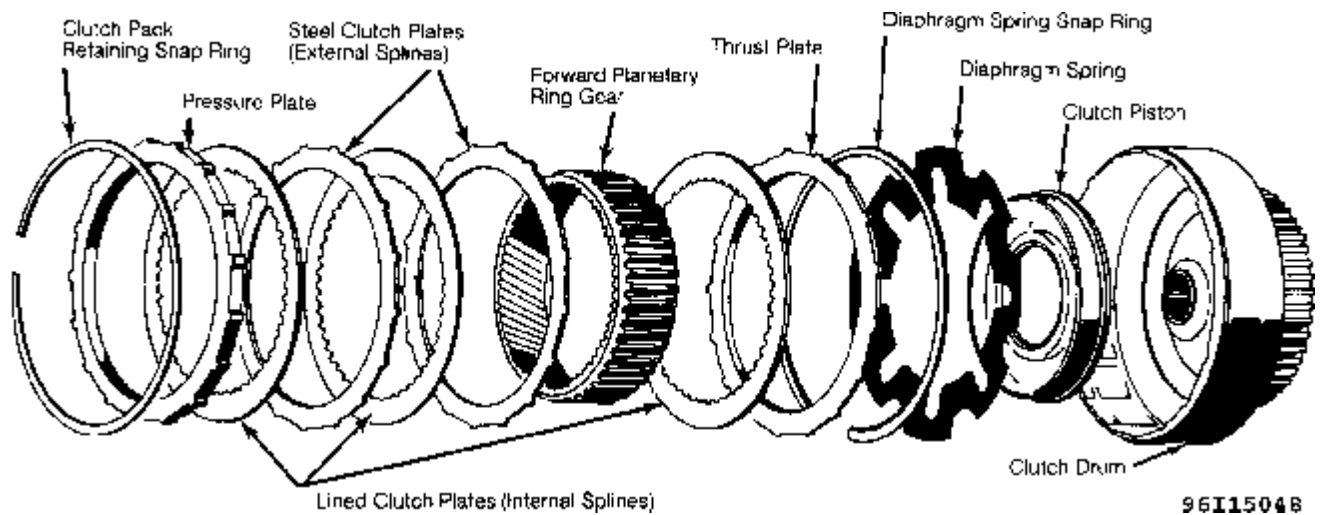

Fig. 11: Exploded View of Forward Clutch Assembly
- 2) Carefully pry out diaphragm spring snap ring. Remove diaphragm spring. Lift clutch piston. If necessary, use compressed air to force clutch piston from drum. See Fig. 11.